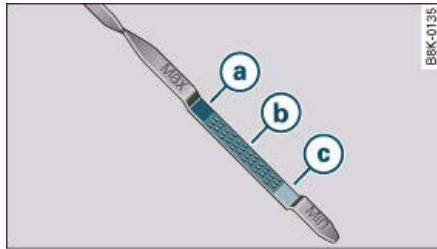
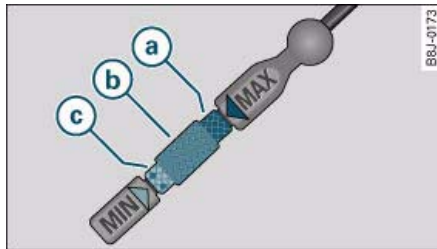

Fig. 224 Variant 1:
Fig. 225 Variant 2:
- Then pull the dipstick out again and check the oil level ⇒ fig. 224 or ⇒ fig. 225. If the oil level is too low, add more engine oil ⇒ *page 234*.